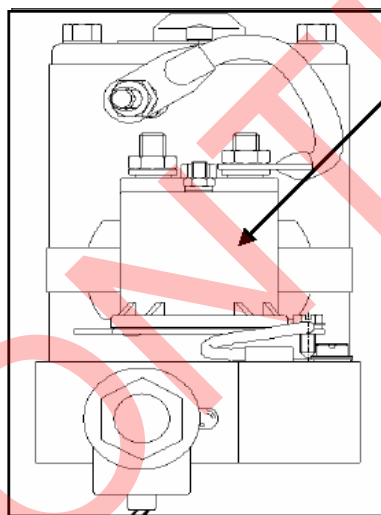

Figure 1
1. At the leveling system pump assembly, find the starter solenoid. It will be a 3 or 4 post solenoid looking similar to the one shown in Figure 1.